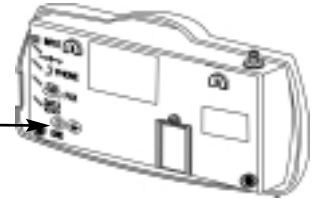

Figure 5 - Protective earth terminal screw.
1) A protective earth (safety ground) terminal (screw) marked with this protective earth symbol is provided on the back of the SX4e Phonecell unit. Connect this terminal to a good earth ground (i.e., a cold water pipe) by means of an 18 gauge or heavier insulated wire. The wire insulation should be green with a yellow stripe to indicate that this is a protective earth (safety ground) connection - **see Figure 5**.